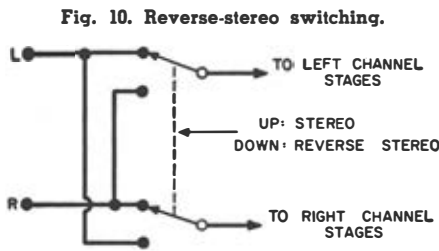

Fig. 10. Reverse-stereo switching.
1. *Reverse Stereo:* This permits the left signal to be fed to the right channel and the right signal to the left channel, as shown in Fig. 10. While accidental reversal of channels on commercial discs and tapes can be expected to drop to zero, there is as yet no stand-